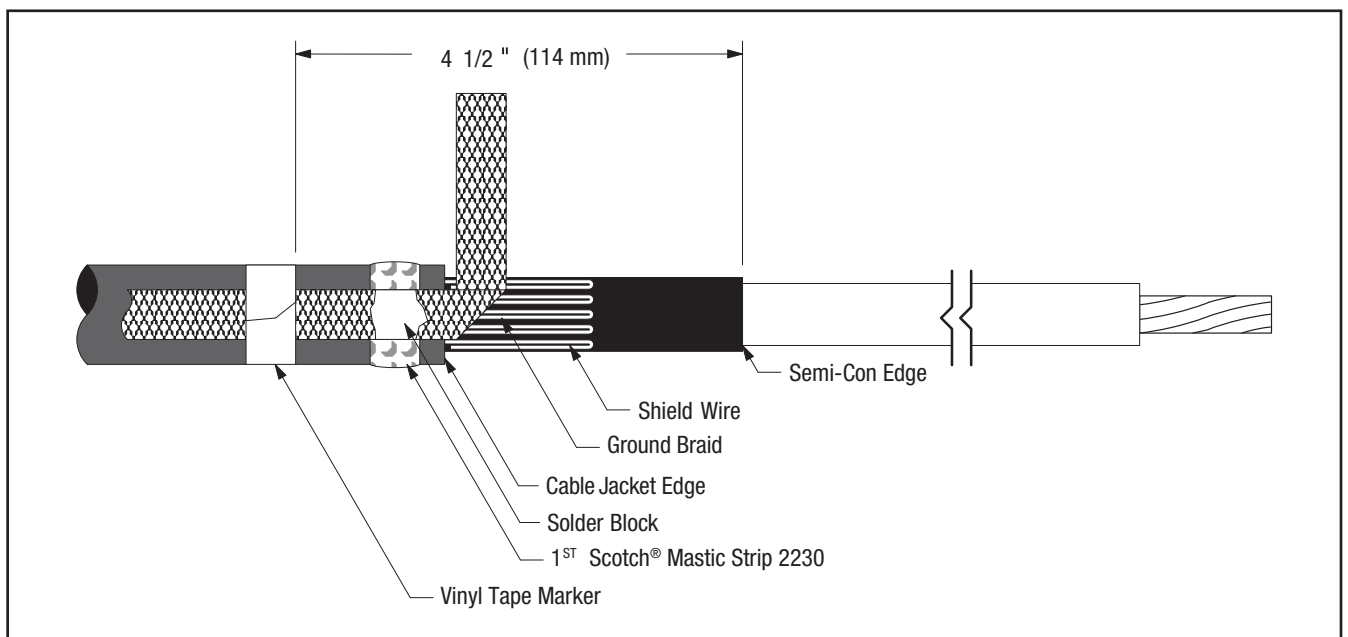

Figure 11
- 8.2 Position preformed ground braid with short tail over wire shield directly adjacent to cable jacket cut edge. Position long tail of ground braid, extending over cable jacket with solder block over mastic strip (Figure 11). Secure ground braid to cable jacket 4 1/2" (114 mm) from cable semi-con edge using vinyl tape (Figure 11).